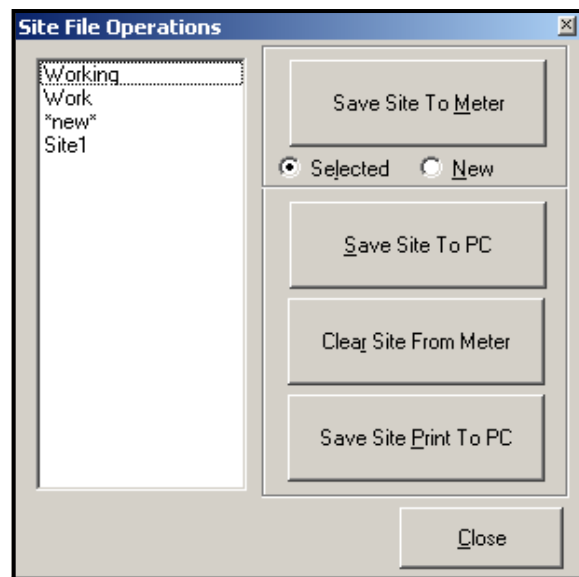

Figure 30: The *Site File Operations* Window
To access site files, click on the *Site Files* button in the *Properties* window. The *Site File Operations* window (shown in Figure 30 below) opens.
1. Highlight the desired site in the left pane. (See Figure 30 on page 100.)
1. Highlight the site in the left pane. (See Figure 30 on page 100.)